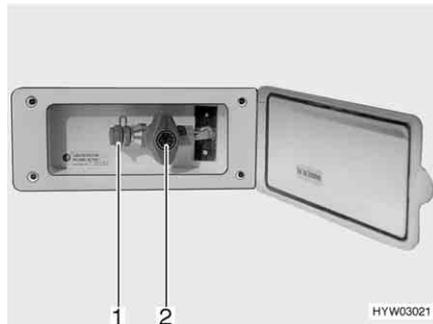

Fig. 149 External gas connection, gas isolator tap closed
The external gas connection (Fig. 149) is located at the rear or to the left or right of the vehicle depending on the model.
- Connect the external gas device to the connection point (Fig. 149,1).
- Open the gas isolator tap (Fig. 149,2).